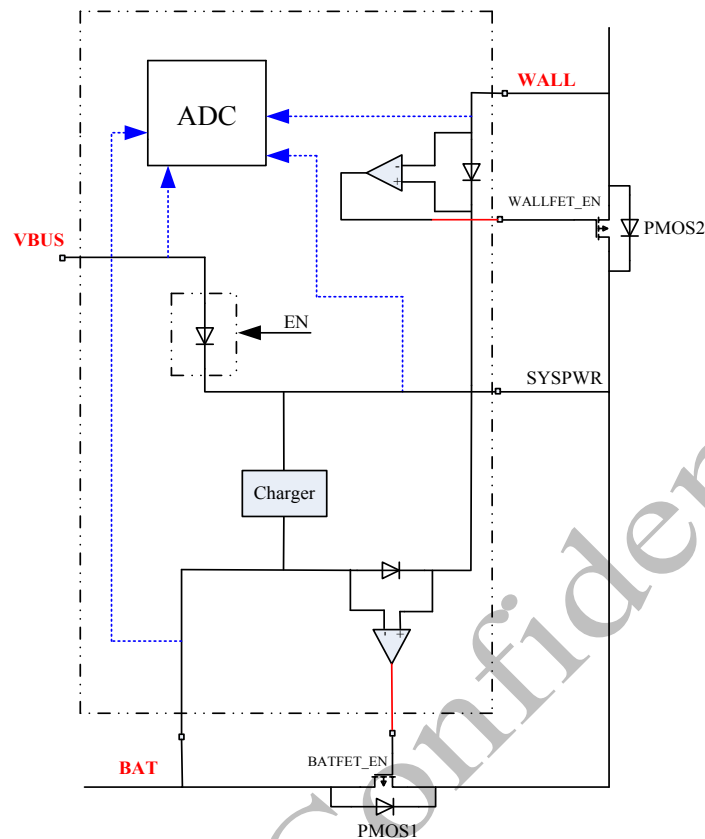

Figure 7-4 APDS Module Diagram
ATC2603C APDS (Adaptive Power Distribute System) block diagram (for CHIP_VER(0xDC)=0x0) is shown in Figure 7-4 above. SYSPWR is a public power supply node for all the DC-DCs and LDOs. PMU gets power from BAT, VBUS and WALL and then supplies to the public node SYSPWR through a diode respectively in the IC. To prevent current from flowing from VBUS to SYSPWR in OTG application, an enable control pin (EN) is applied to the diode between VBUS and SYSPWR. When this diode is disabled, the path from BUS to SYSPWR will be cut off completely. PMU needs to supply high power, in order to reduce internal thermal dissipation, two external MOSFET PMOS1 and PMOS2 are applied to bypass big current, see in Figure 7-4 above.